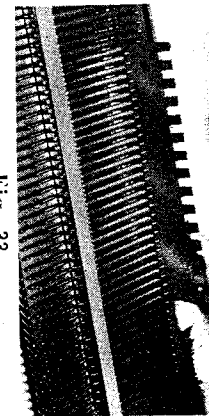

Fig. 33
F. To get the tension turn dial until tension number (7) is above triangular white indicator.
G. Raise the Holding (Yarn Levers to Position (1)). The carriage may be at either side of the needle bed, clear of the needles to be knitted.
H. Using the edge of a needle pusher, bring forward to position B (about 1/2" from the resting position (A) the desired number of needles. (See Fig. 33)